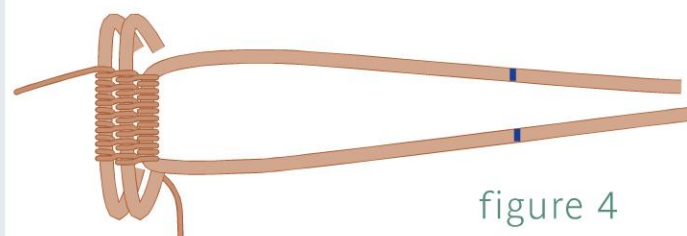

figure 4
- 10 Repeat Steps 8–9 on the second outer frame wire. Turn the frame wires so the wire ends come together (Figure 4).